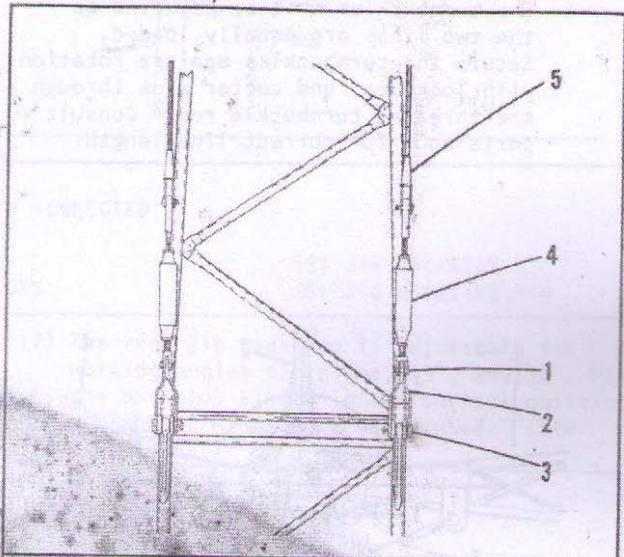

FIG. 13-39
- (2) Without equalizer sheaves (Fig. 13-39) each jib backstay is anchored to the jib mast with a socket and wedge. The other end of each backstay is attached to a turnbuckle with a socket and wedge. The turnbuckles are pinned to a set of links, which are fitted over the upper boom connection pin at the bottom of the upper boom section. Jib angle with respect to boom is varied by changing the length of jib backstays. The turnbuckles must be adjusted so the two lines are equally loaded. Secure the turnbuckles against rotation with locknuts, and cotter pins through the threaded turnbuckle rod. Consult parts
(3) The jib backstay line may be anchored at the end of the boom lower section. The links are mounted to the upper boom connection pins. On machines without equalizer sheaves, the backstays connect to turnbuckles pinned to the links as in Fig. 13-39. On machine with equalizer sheaves, a socket and wedge at each end of the backstay pins to the links. In either case, the jib angle is adjusted by varying the length of backstay lines. The turnbuckles must be adjusted so the two lines are equally loaded. Secure the turnbuckles against rotation with locknuts, and cotter pins through the threaded turnbuckle rod. Consult parts book for correct line length.